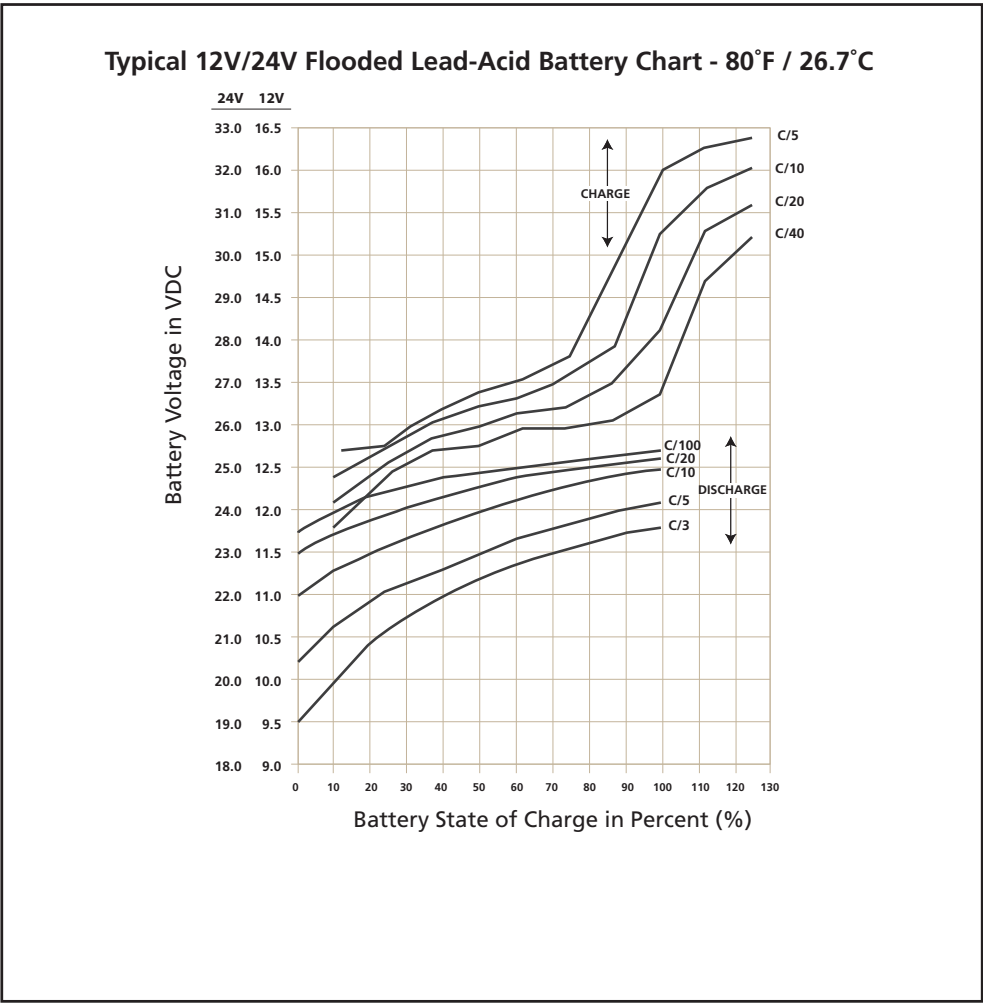

Fig 1.4.1 Charging / Discharging Curves for Typical 12V/24V Flooded Lead Acid Battery
1.4.11.1 Fig 1.4.1 shows examples of State of Charge / Discharge Curves for different C-rates for typical 12V / 24V Lead Acid Battery Bank / Bank at 80°F / 26.7°C. These curves are used to determine the State of Charge / Discharge of the battery based on its terminal voltage.
1.4.11.2 Example of Determining State of Charge (using Fig 1.4.1) when Charging 12V, 100Ah Battery at C-rate of 0.1C or C/10 or 10A: Refer to Charge Curve marked C\10 of the upper 4 curves marked “CHARGE”. States of Charge at different battery terminal voltages will be: (a) At 15.3V = 100% charged; (b) At 14.3V = 90% charged; (c) At 13.5V = 70% charged; (d) At 12.5V = 15% charged
1.4.11.3 Example of Determining State of Discharge (using Fig 1.4.1) when Discharging 12V, 100Ah Battery PAck / Bank at C-rate of 0.33C or C/3 or 33.3A: Refer to Charge Curve marked C\3 of the lower 4 curves marked “DISCHARGE”. States of Discharge at different battery terminal voltages will be: [a] At 9.5V = 100% discharged (0% charged); [b] At 10.4V = 80% discharged (20% charged): [c] At 11.5V = 28% discharged (72% charged) and [d] 11.75V = 0% discharged (100% charged)
The discharge curves in Fig. 1.4.1 show the % State of Charge versus the terminal voltage of typical Flooded Lead Acid Battery under different charge /discharge currents, i.e. “C-rates” and fixed temperature of 80°F. (Please note that the X-Axis of the curves shows the % of State of Charge. The % of State of Discharge will be 100% - % State of Charge).
As stated earlier at Section 1.4.14, the buzzer alarm is triggered when the voltage at the DC input terminals of the inverter has dropped to around 10.5V for a 12V battery pack / bank or 21V for 24V battery bank at C-rate discharge current of C/5 Amps. Please note that the terminal voltage relative to a particular State of Discharge decreases with the rise in the value of the discharge current. For example, terminal voltages for a State of Discharge of 80% (State of Charge of 20%) for various discharge currents will be as given at Table 1.4.5 (Refer to Fig. 1.4.1 for parameters and values shown in Table 1.4.5):
Inverters are normally provided with a protection to shut down the output of the inverter if the DC voltage at the input terminals of the inverter drops below a threshold of around 10V for a 12V battery or, 20V for 24V battery. Referring to the Discharge Curves given in Fig 1.4.1, the State of Discharge for various C-rate discharge currents for battery voltage of 10V / 20V is as follows: (Please note that the X-Axis of the curves shows the % of State of Charge. The % of State of Discharge will be 100% - % State of Charge):